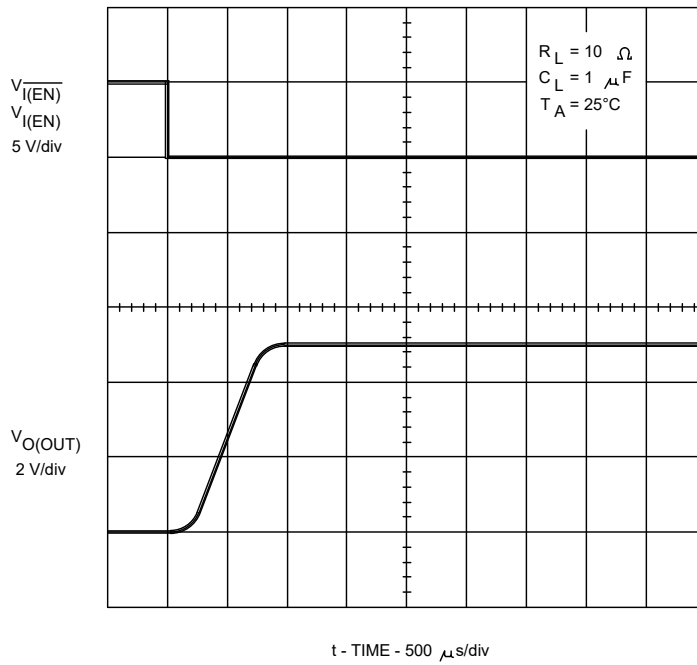

FIGURE 5. Turn-On delay and rise time with 1  $\mu F$  load.
3.5.5 Turn on delay and rise time with 1  $\mu$ F load. The turn on delay and rise time with 1  $\mu$ F load shall be as shown in figure 5.